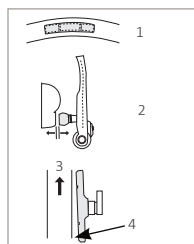

FIGURE 3.26
2. Align the brake-pads as shown in Figure 3.26. Tighten the brake-pad fixing bolts: